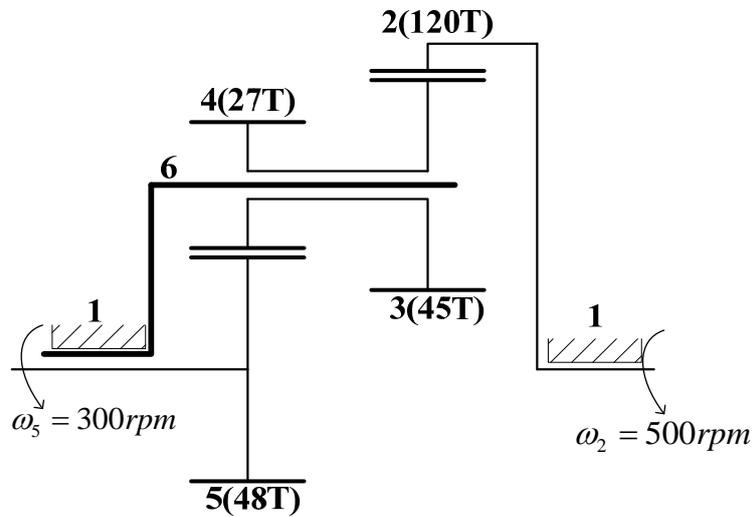

Figure 3 Gear train
3. In the gear train of Figure 3, the inputs are the sun gear 5 and the ring gear 2. For given angular velocities of  $\omega_{s1} = 300 \text{ rpm}$  and  $\omega_{r1} = 500 \text{ rpm}$  (both counterclockwise as seen from the right), find the resulting rotation of ram 6. (25%)